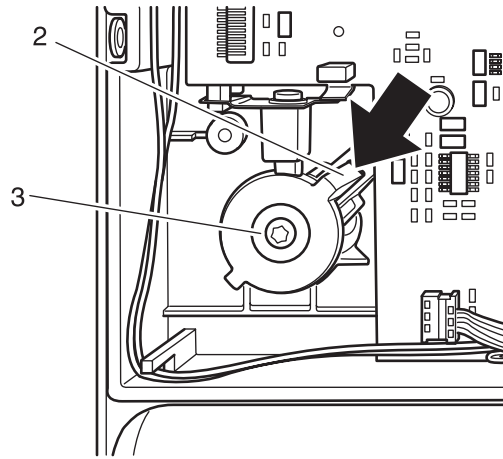

Fig. 21a
- Use a screwdriver to press against the upper tab of cover 2. Then remove thrust piece 3 and cover 2 (fig. 21a).